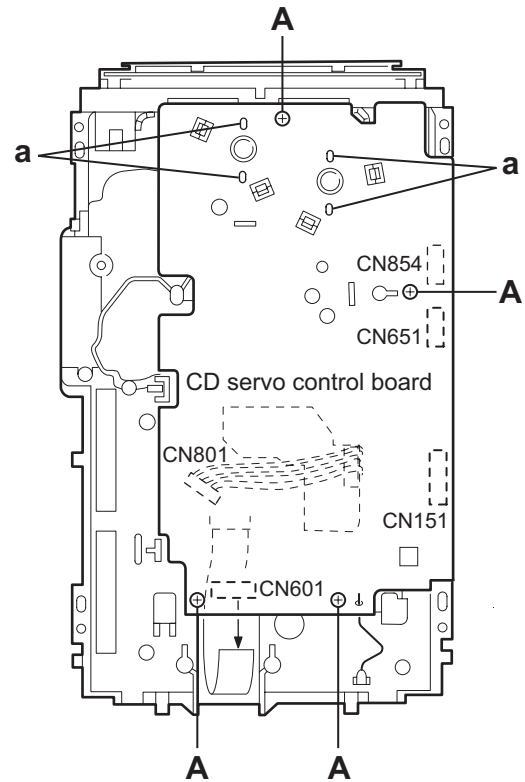

Fig.1
3.3.1 Removing the CD Servo control board (See Fig.1)